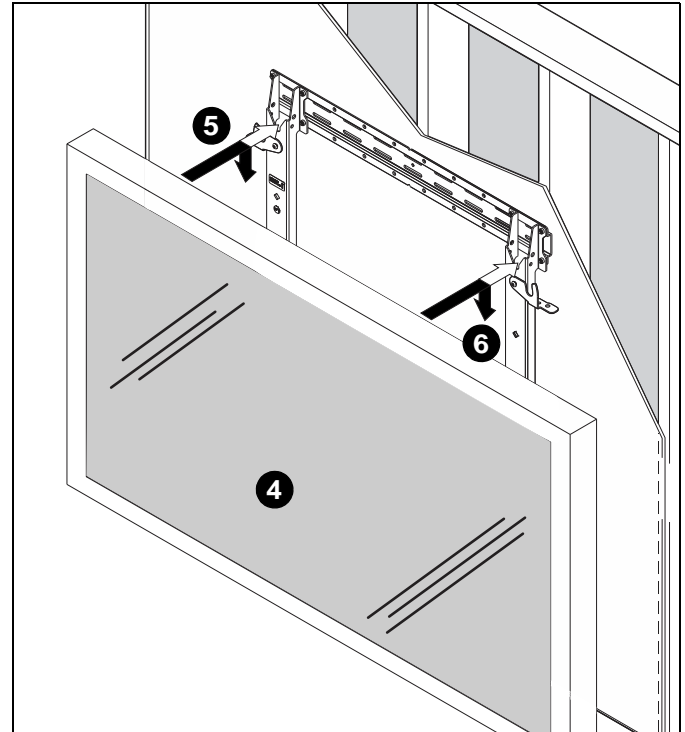

Figure 5
4. Align mounting buttons on display with teardrop mounting holes in mount. (See Figure 5)
5. Move display forward until recessed area of mounting buttons is positioned over lower area of teardrop mounting holes. (See Figure 5)
6. Lower display until recess area of mounting buttons is seated in lower area of teardrop mounting holes. (See Figure 5)